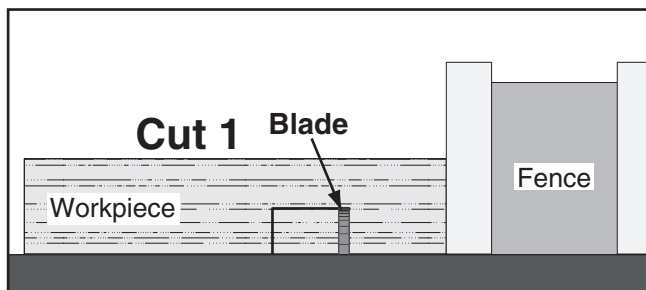

Figure 56. First cut for a single-blade dado.
6. Align the blade to cut one of the dado sides, as shown in **Figure 56**.